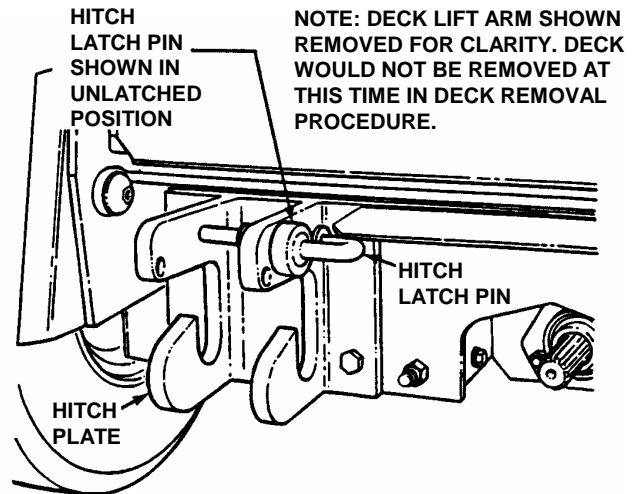

FIGURE 3.10
4. Rotate spring loaded hitch latch pins (Located on both hitch plates) to the unlatched position. See Figure 3.10.